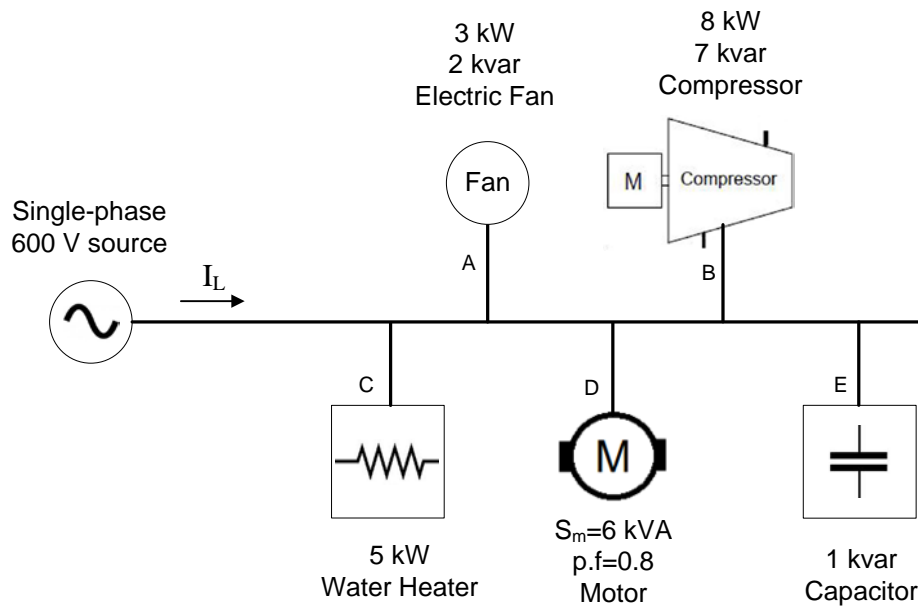

Figure 2.1
2. (a) A single-phase 600V A.C. source supplies power to a manufacturing system consists of five loads as shown in Figure 2.1. Calculate: